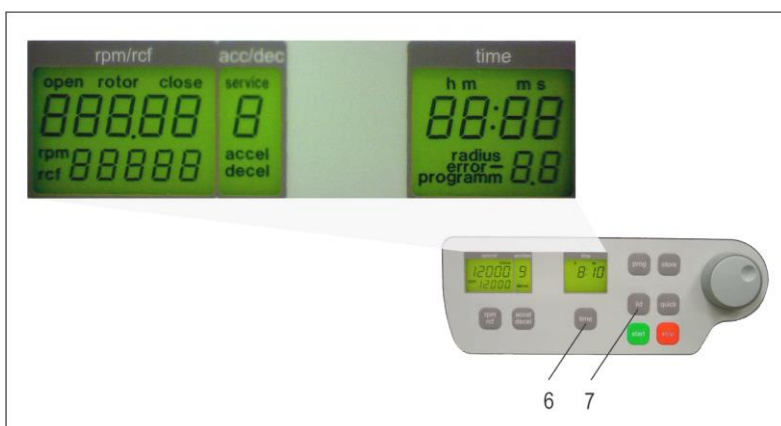

Figure 3
If the centrifuge is still turned off, press the keys, "time" (6) and "lid" (7) simultaneously, turning on the main switch of the centrifuge. Now release both keys. As a result, a display test is administered for approx. 5 seconds. All possible indications will appear at the same time (Figure 3).